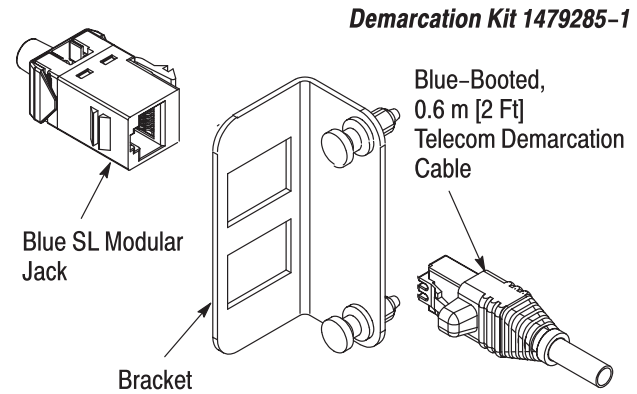

Figure 4
1. Before mounting the panel, some components must be inserted into the BACK of the Telecom bridge/security module. See Figure 4.